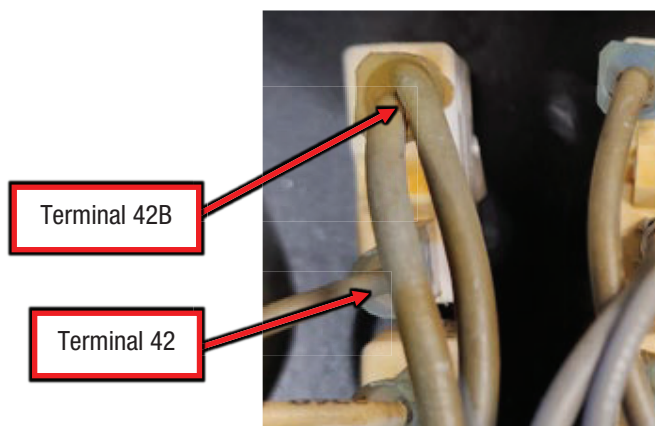

Figure F.3
A.3. Perform the static measurements in Test Table 1, refer to Figure F.3 for test point locations. NOTE: MEASUREMENTS ARE MADE ON CB4 WITH THE LEADS REMOVED.